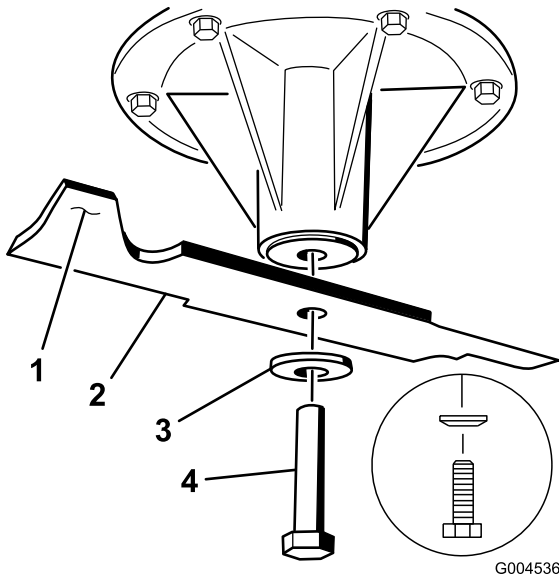

Figure 94
1. Install the blade onto the spindle shaft (Figure 94).
2. Install the spring disk and blade bolt. The spring disk cone must be installed toward the bolt head (Figure 94). Torque the blade bolt to 85-110 ft-lb (115-150 N-m).